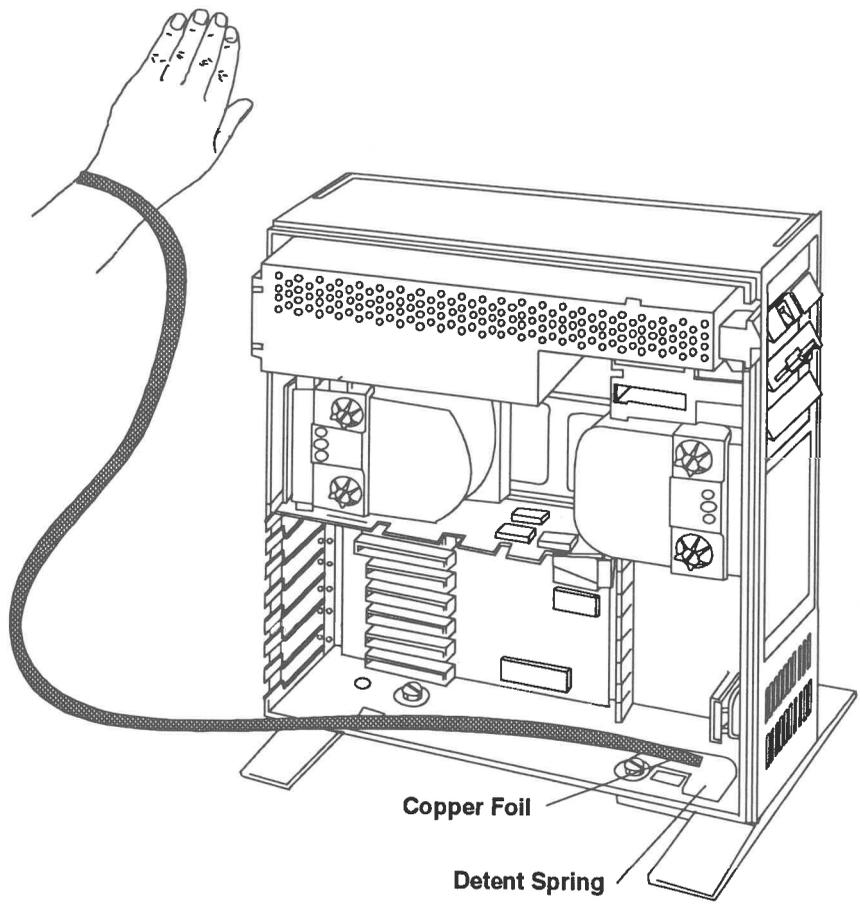

Figure 2-2 Using the Grounding Wrist Strap
6. Secure the copper foil to the front foot detent spring in the base of the chassis (see Figure 2-2).